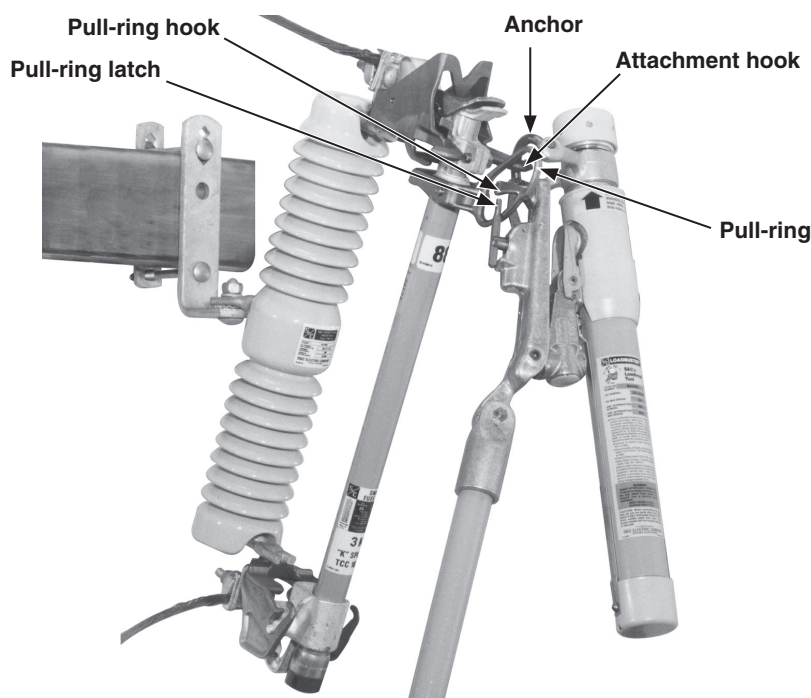

Figure 5. Loadbuster connected to S&C Power Fuse—Type SMD-20, Outdoor Distribution.
The operating steps illustrated in Figures 5 through 8, covering opening of a power fuse, apply equally to a fuse cutout, fuse limiter, or disconnect.
**Step 1** Reach across *in front* of the power fuse with Loadbuster and hook the anchor, located at the top of Loadbuster, over the attachment hook *on the far side* of the power fuse. See Figure 5.
**Step 2** Swing Loadbuster toward the power fuse and pass the Loadbuster pull-ring hook through the pull-ring on the power fuse. The pull-ring latch will deflect and upon complete entry of the pull-ring, will spring back, locking Loadbuster to the pull-ring. Loadbuster is now connected across the upper contact of the power fuse. See Figure 5.